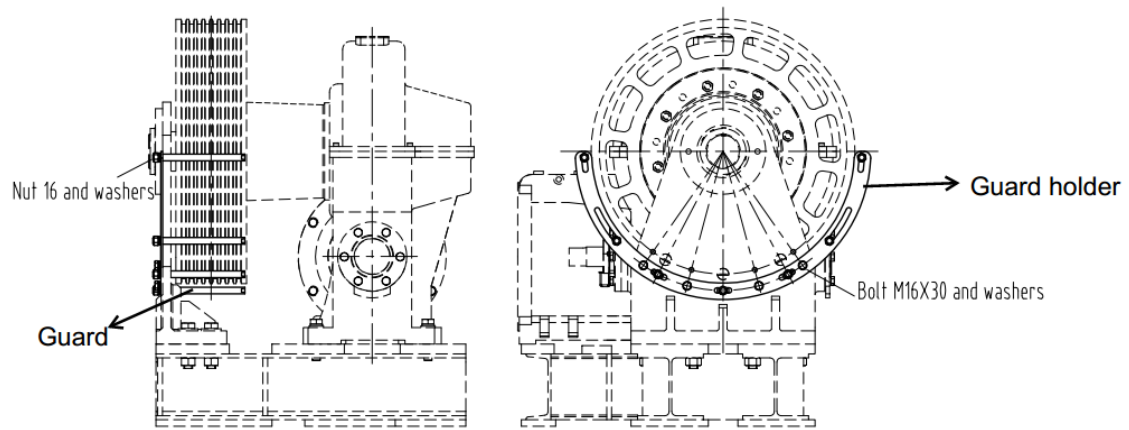

Figure 19 Guard removal
2. Loosen the Nut M16, bolt M16X30 and washers on the guard by the open wrench (24mm), and remove the guard and guard holder. Remove the ropes. See Figure 19.